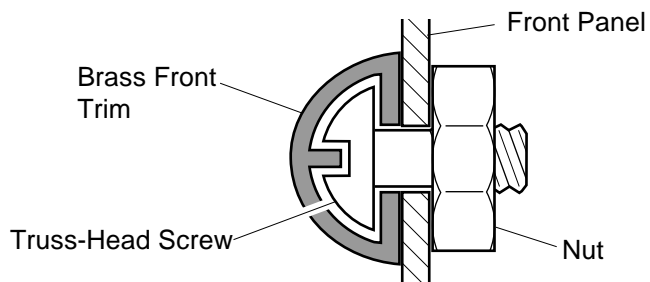

Figure 5 - Attaching Brass Front Trim to Front Panel
2. Slide the head of two truss-head screws from hardware packet into each end of brass front trim (see Figure 5).